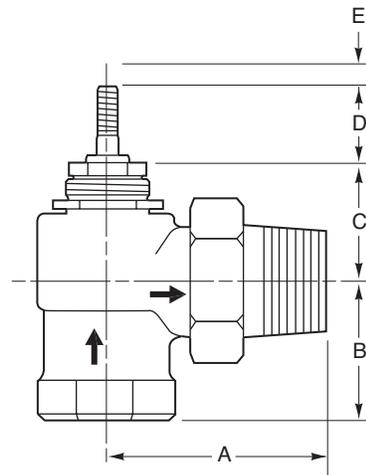

Figure-5 Dimensions for VB-7211-0-3-P Series Angle Valve Bodies.
**Table-10 Dimensions for VB-7211-0-3-P Series Angle Valves (Figure-5).**